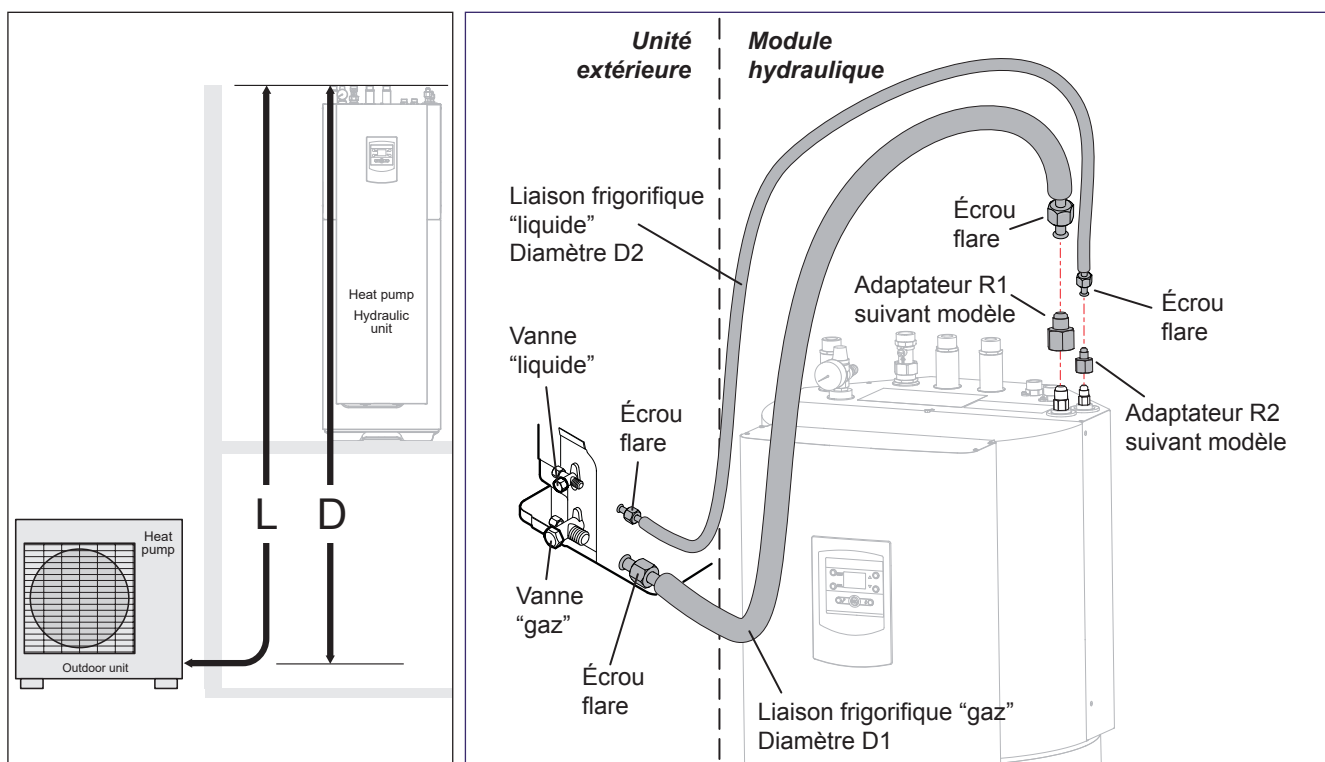

figure 18 - Refrigerating link connection (accepted diameters and lengths)
- ☞ Depending on the case, connect an adapter (reducer) 1/4"- 3/8" or 1/2"- 5/8" (see figure 18, page 21).
The outdoor unit charge corresponds to the maximum distances between the outdoor unit and the hydraulic unit defined in figure 18, page 21. For greater distances, an additional charge of R410A is required. The additional charge depends, for each type of appliance, on the distance between the outdoor unit and the hydraulic unit. The additional charge of R410A must only be added by a qualified specialist.